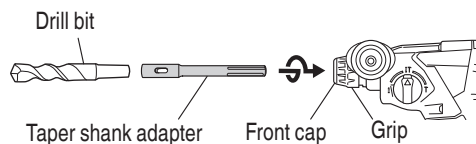
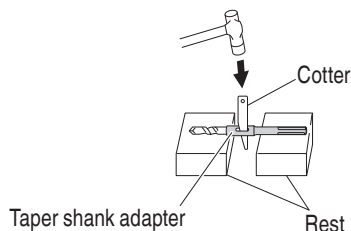

Fig. 23
Fig. 24
(1) Mount the taper shank adapter to the rotary hammer (Fig. 23).
(2) Mount the drill bit (taper shank) to the taper shank adapter (Fig. 23).
(3) Turn the switch ON, and drill a hole in prescribed depth.
- (4) To remove the drill bit (taper shank), insert the cotter into the slot of the taper shank adapter and strike the head of the cotter with a hammer supporting on the rests (Fig. 24).